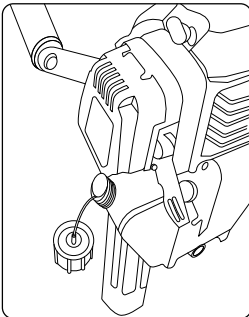
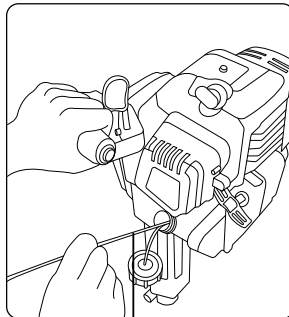

Figure 8
Figure 9
- 1- Open the tank cap (See Figure 8) with metal hook (See Figure 9,10), take the fuel filter cleaning from the tank.